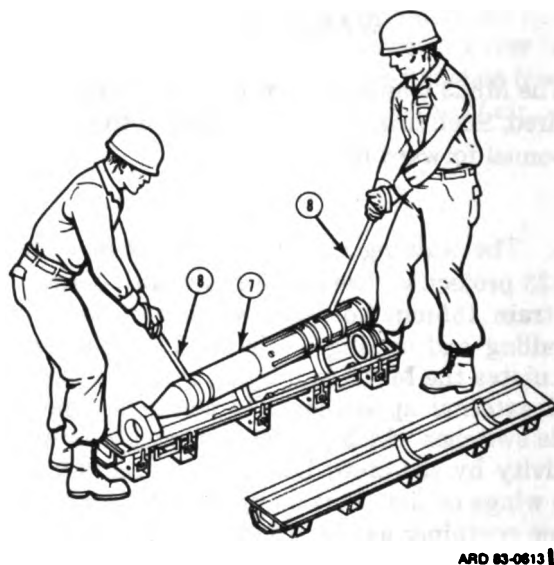

Figure 211.45. Removing projectile from container.
(g) Open stainless steel fin and wing preload bands (6). Remove and place in the container cover (fig. 211.45).
(h) Cannoneers No. 2 and 7 should carefully remove projectile (7) from container by lifting it up and to the rear, using lifting straps (8) provided on the projectile (fig. 211.45).